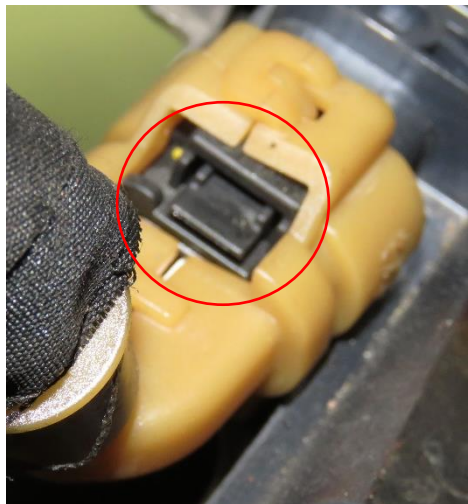

Fig. 7
8. Remove the electronic valve plug of R & L side. (Fig 7)